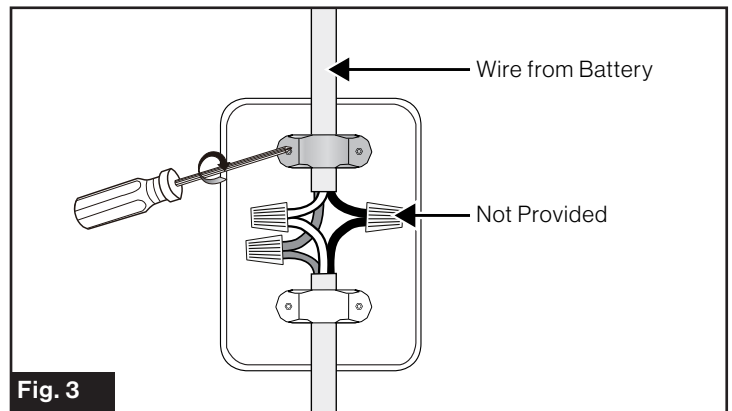

Fig. 3
3. Use the upper strain-relief for securing the wires going to the battery. (Fig. 3)